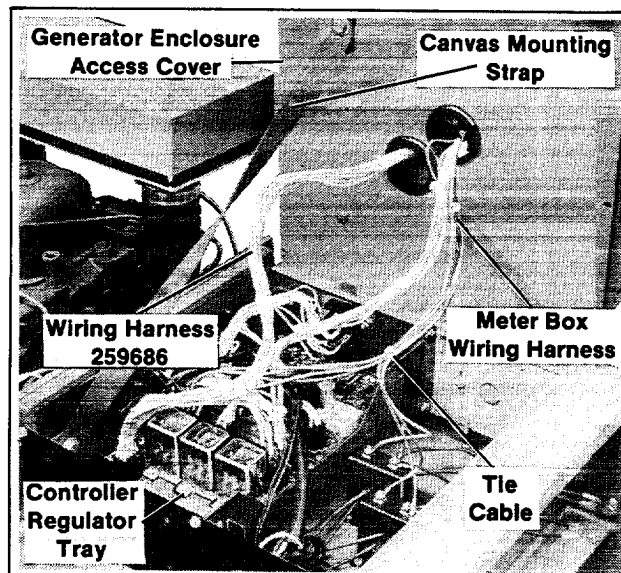

Figure 4. Meter Box Assembly
9. Mount canvas support strap to controller/regulator tray. Run canvas strap to upper left corner of generator enclosure access cover and attach with mounting bolt of vibration dampener. Refer to Figure 4.
14. Wire meter box according to your model's specific wiring diagram. Attach tie cables after wiring has been completed as shown in Figure 4. Attach meter box cover.